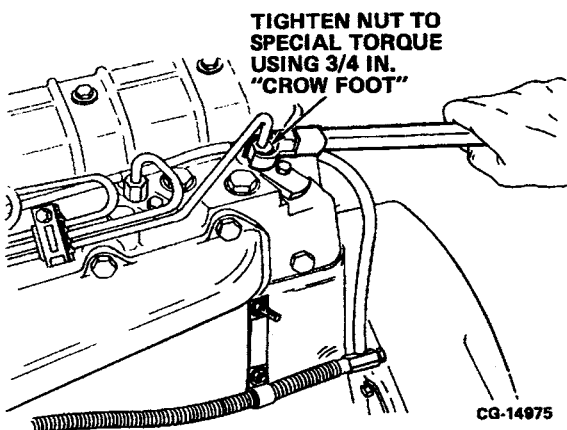

Figure 11.85. Install Injection Line Connector Nuts to each Nozzle
- b. Install the connector nuts at the nozzles using a 3/4 in. "Crow Foot" socket, as shown in Figure 11.85. Tighten each nut to the specified "SPECIAL TORQUE".